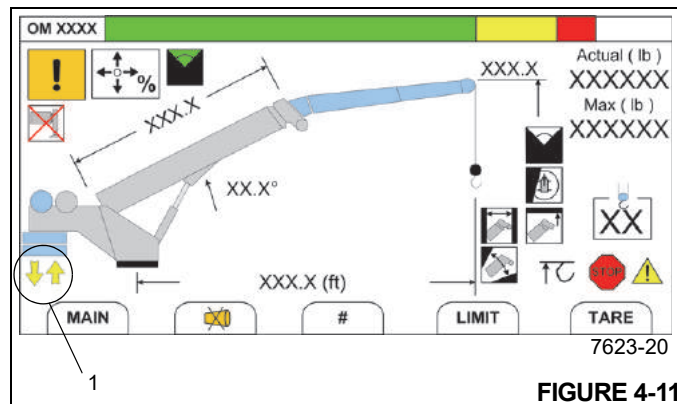

FIGURE 4-11
3. Set display in Operator's Console to the RCL Operating Mode Screen (Figure 4-11) (see *Section 7, Rated Capacity Limiter*).
4. While watching the display, rotate superstructure until Counterweight Removal Slew Position Indicator (yellow arrows) (1, Figure 4-11) appears in the display, which indicates the rear of the superstructure is nearly directly above the Removable Counterweight stowed on the carrier deck.
4. While watching the display, rotate superstructure until Counterweight Removal Slew Position Indicator (yellow arrows) (1, Figure 4-11) appears in the display, which indicates the rear of the superstructure is nearly directly